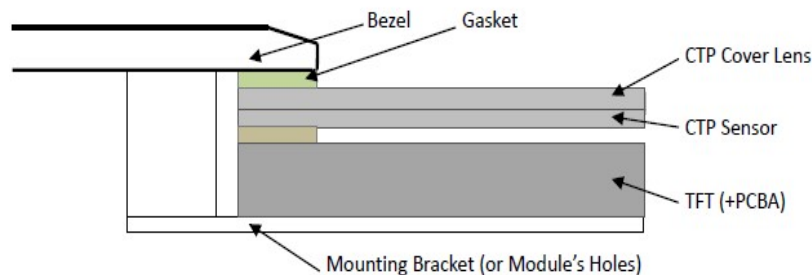

Figure 1
6.1 Bezel Mounting (Figure 1)
6.1 面框安装 (附图1)